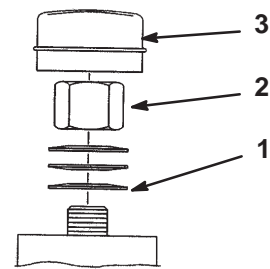

Figure 51
2. Remove dust cap from caster and tighten lock nut (Fig. 51).
3. Tighten until spring washers are flat and then back off a 1/4 turn to properly set the pre-load on the bearings (Fig. 51).
Important Make sure spring washers are installed correctly as shown in figure 51.